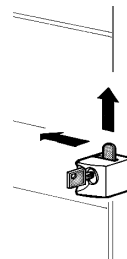

figure 5
- 3 - It is possible to lock the door of the dispenser (see figure 5).